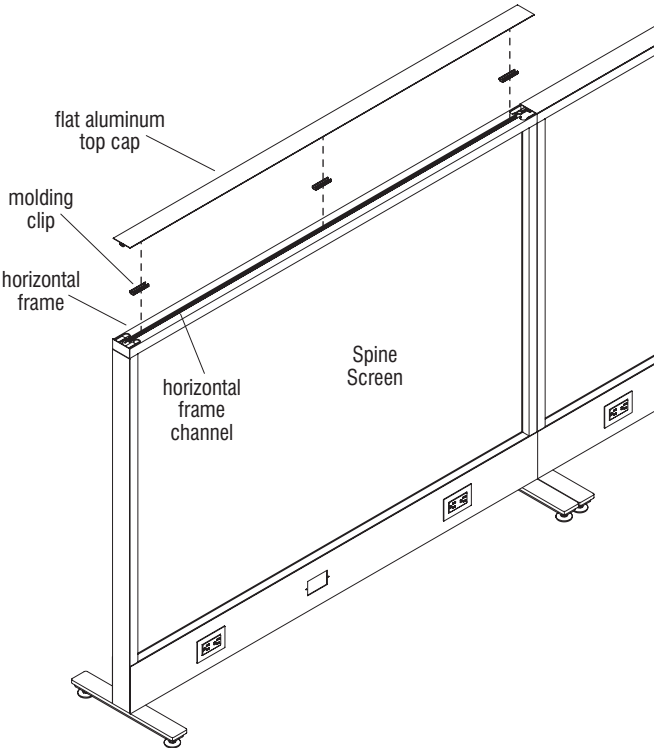

Figure 46
1. On the rib side of the flat aluminum top cap, space molding clips evenly apart and press them onto the ribs of the top cap as illustrated (Figure 46).
2. Position the flat aluminum top cap with molding clips down against the horizontal frame channel. Using a firm hand, press on the top cap at the molding clip location to snap molding clips into the horizontal frame channel (Figure 46).